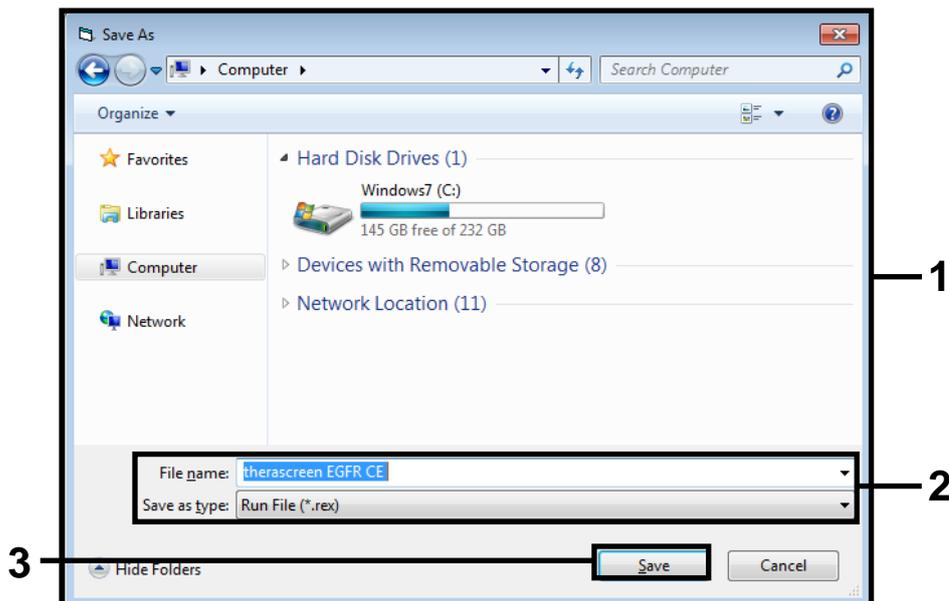

Figure 6. “Save As” window (1) (2 = “File Name” and “Save as type” fields; 3 = “Save” button).
17. The “Save As” window opens. Chose an appropriate file name and save the PCR run as a *.rex run file to the selected location. Click “Save” (Figure 6).